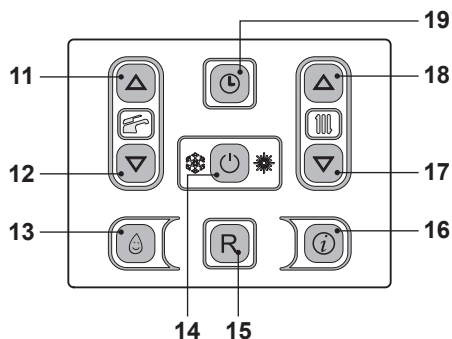
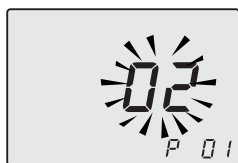
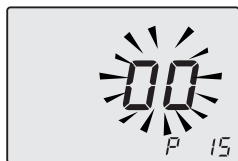

Fig. 7.17
Fig. 7.18
Fig. 7.19
- Enter in "programming mode" by pressing keys 14 - 17 - 18 (Fig. 7.17) for 10 seconds at the same time until the letters **P01** are displayed on the LCD display, indicating that "parameter 01, has been activated (Fig. 7.18).
- Scroll the various parameters using keys 17 or 18 until the letters **P15** are displayed on the LCD display, indicating that "parameter 15" (Fig. 7.19) has been activated.
- By pressing key 14 (Fig. 7.17) confirmation of the inserted value is obtained.
- Press keys 17 or 18 (Fig. 7.17) to exit without changing the value (Fig. 7.19)
However, if the ambient temperature is not comfortable, the flow temperature of the heating plant can be increased or reduced by  $\pm 15^{\circ}\text{C}$  by acting on keys 17 (reduce) and 18 (increase) (Fig. 7.17).